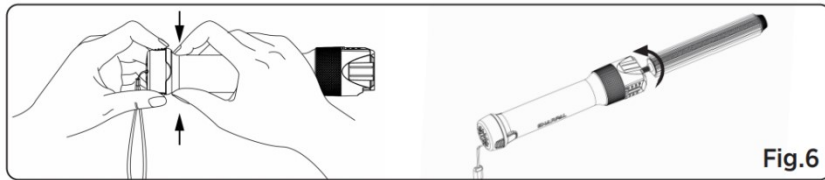

Fig.6
1. Press down on the buckle of the handle end cap to open it and take the abrasives support holder out of the handle. (See Fig. 6).
2. Screw the thread of the abrasives support holder clockwise into the bottom of the mounting hole (See Fig. 6).